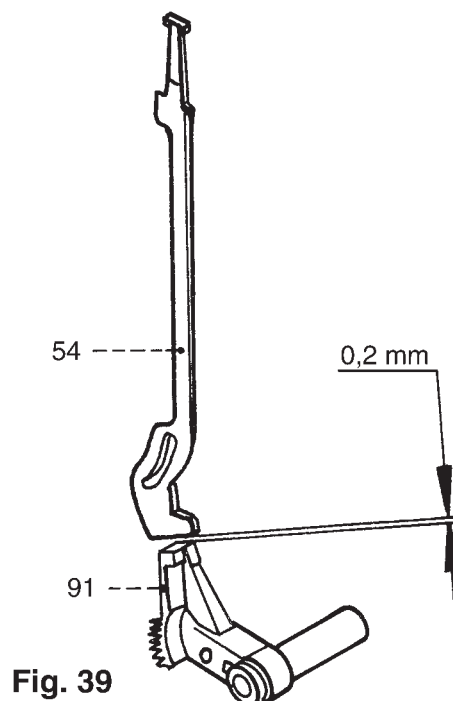

Fig. 39
At straight stitch or stretch stitch setting there must be a clearance of 0.2 mm between reversing bar 54 and the end of the lever of feeler 91 (fig. 39).
- Move feed reversing bar 54 up and down a little and, at the same time check the 0.2 mm clearance between reversing bar 54 and the end of the lever of feeler 91 (fig. 39).